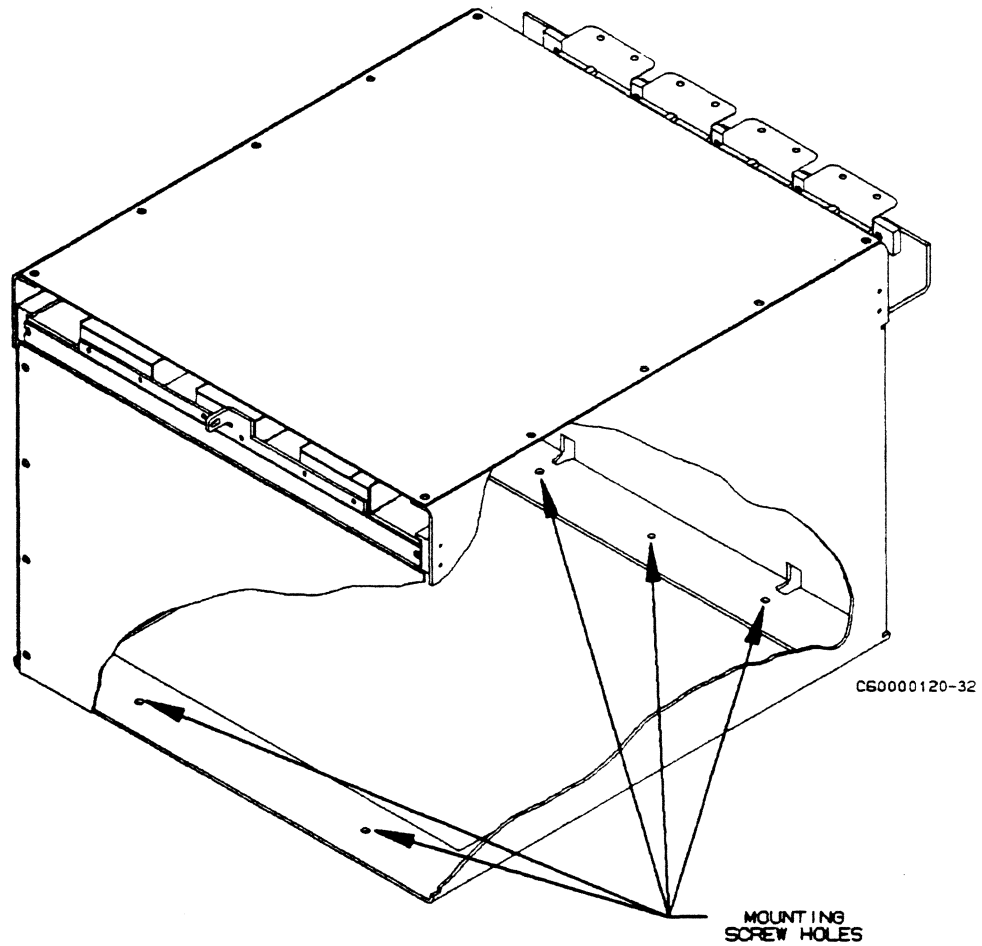

Figure 3-9. Mounting Box Mounting Screws
- ___ 7. Remove module box mounting screws (figure 3-9). Pull box out front of CP.